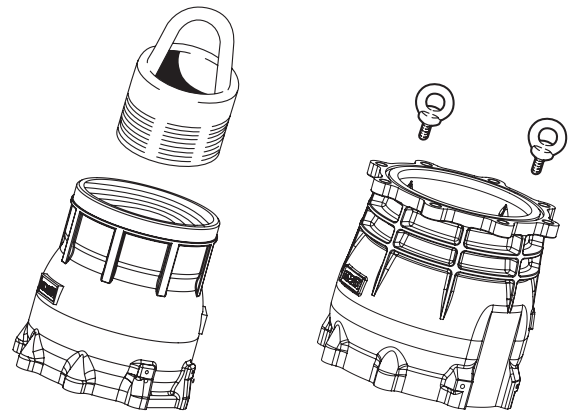

Fig. 2
**Before handling and lifting check: Weight of the pump (reported on the plate). The lifting hook position (fig. 2).**